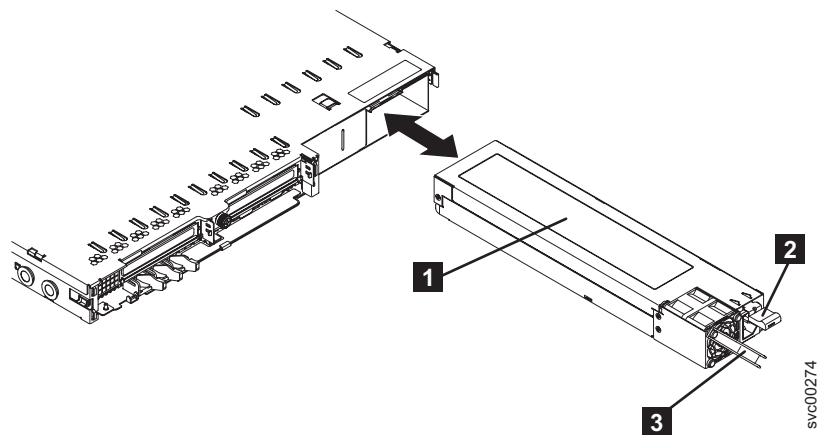

Figure 181. Removing the SAN Volume Controller 2145-8G4 power supply
3. Press and hold down the orange release tab **2**, which is shown in Figure 181, and pull the power supply out of the node.